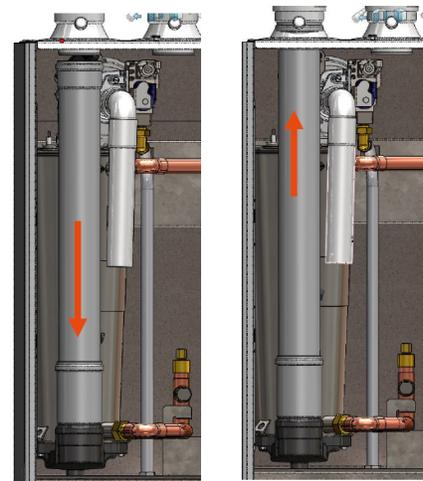

Fig. 8 - - Venting pipe with telescopic section
- Insert bottom of telescopic pipe into bottom connection of condensate dish, as shown in Fig. 8.